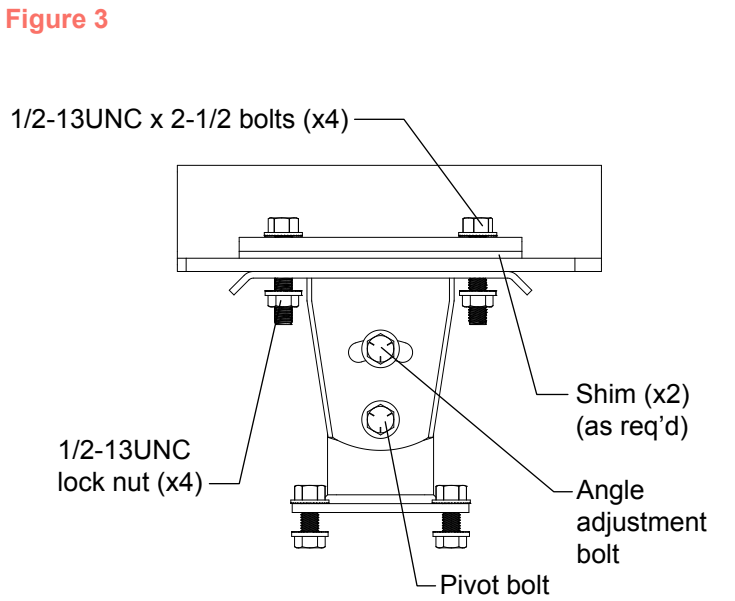

Figure 3
- Tighten pivot and angle adjustment bolts on fan mount. Torque to 44-48 ft-lbs. See Figure 3.